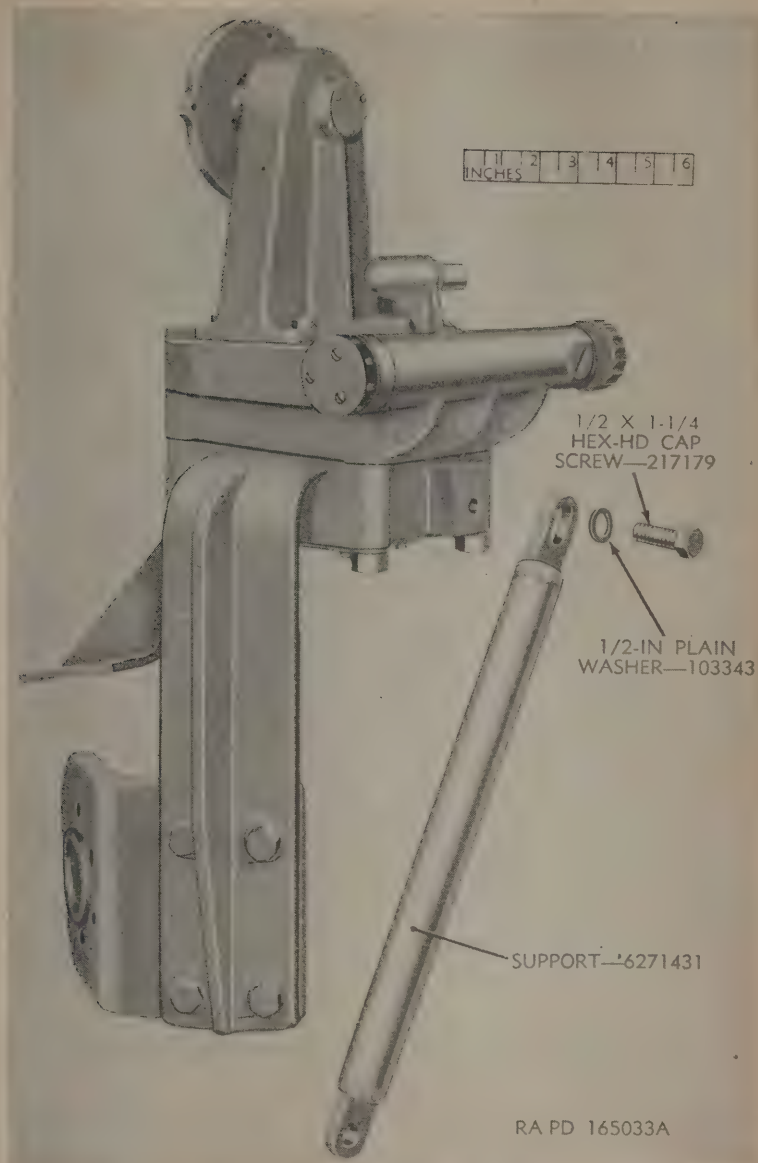

Figure 59. Telescope mount M52D—removal of the support.
*d. Support (Telescope Mount M52D Only)* (fig. 59). Remove the hex-head cap screw that secures the support to the upper mounting bracket. Separate the support from the mounting bracket. Slide the plain washer from the cap screw.